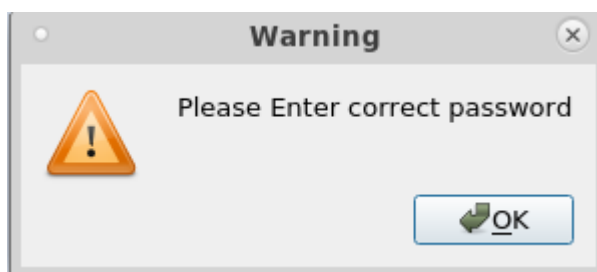

Figure 49: Forgotten PIN Error Message
- Figure 49: Forgotten PIN Error Message shows the notification window that will appear when incorrect pin code is entered. User account will be locked when incorrect password is entered more than 5 times. If a User forgets their PIN, please contact your Plants Legendary™ Administrator.